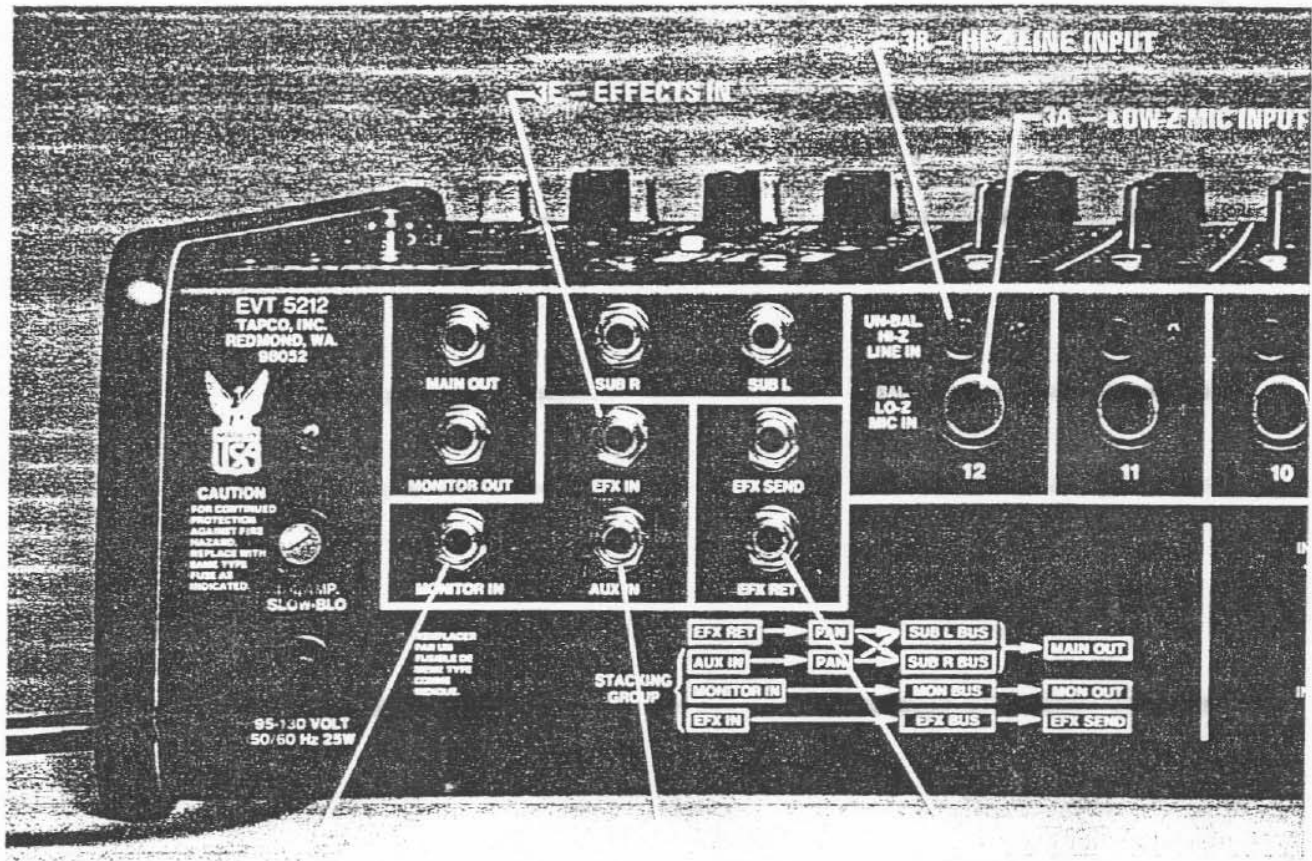

FIGURE 3 – Input Jacks
3. REAR PANEL INPUT CONNECTORS (Figure 3)